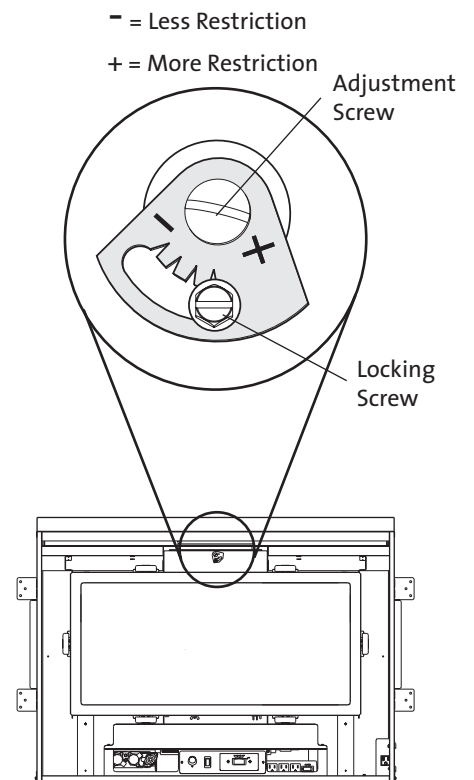

Figure 5.6. Exhaust restrictor adjustment.
The Atra GZ 455 DV features an exhaust adjustment control to accommodate a variety of conditions that result from variables inherent in the vent configuration and environment. The control mechanism is a butterfly valve located in the exhaust outlet at the top of the firebox. The restriction setting can be accessed from outside the firebox to allow the burner and pilot flame characteristics to be "dialed-in" under operation. See fig. 5.6.
1. Use the spade screwdriver to loosen the locking screw and turn the adjustment screw on the restrictor pivot plate to the appropriate indicator point, as specified in the vent window diagram, fig. 5.6.